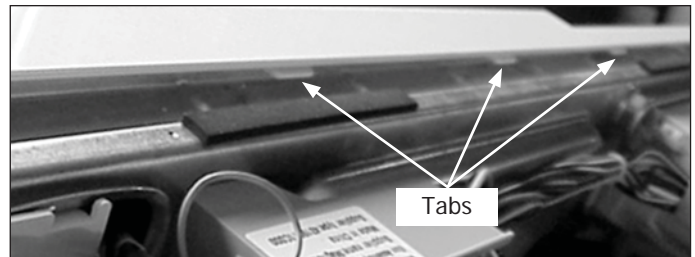

Figure 4-21.
4. Lift the (3) tabs to release the top of console from the mounting plate. (See Figure 4-21)